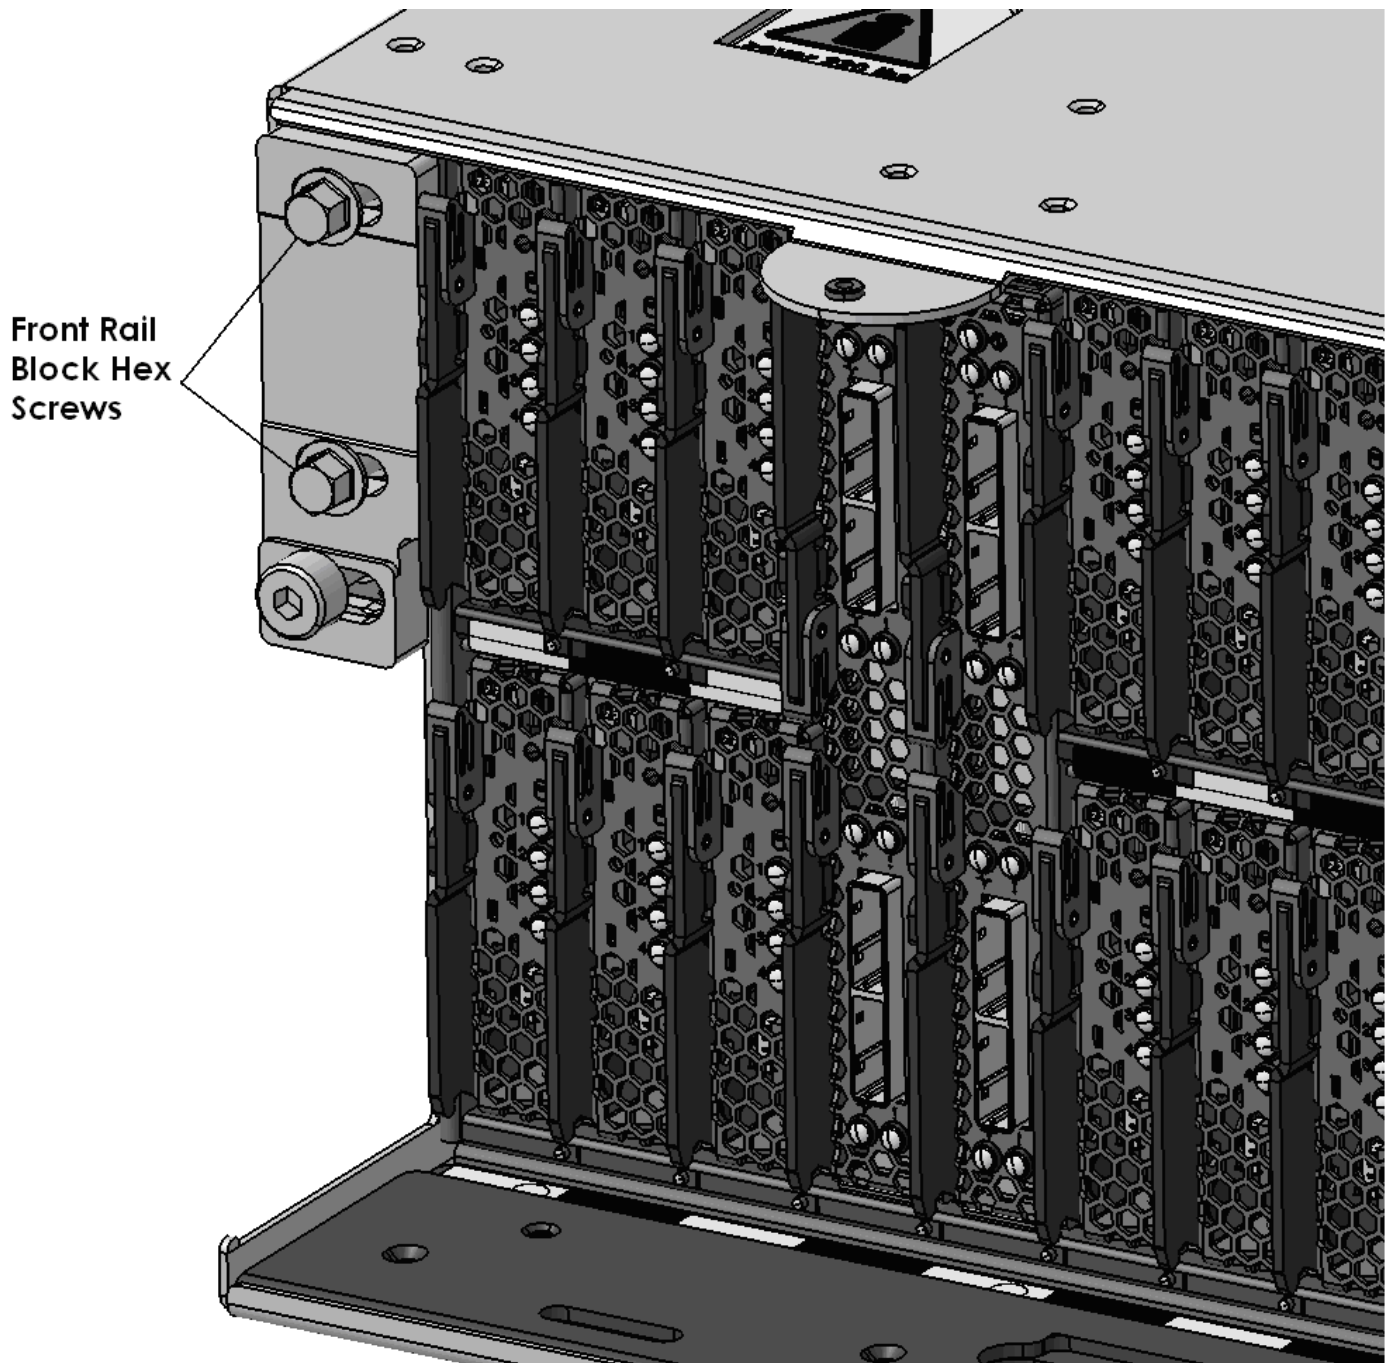

Figure 25: Front Rail Block Screws
STEP 26 Locate the two Front Rail Block Captive Allen head screws (one on the left side and one on the right side of the DE) which hold the Front Rail Block to the DE Rails (see Figure 25).
If they will interfere with any cables, remove the Front Rail Blocks by loosening the four Front Rail Block Hex Screws (two on the left side, and two on the right side of the DE) (see Figure 25) using the following tools: